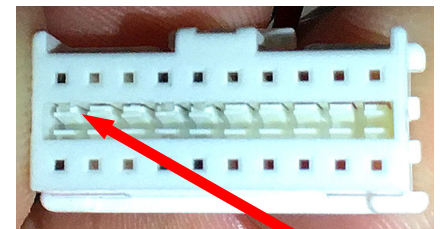

Figure 27
9. The pins are held in with small tabs (see Figure 27).